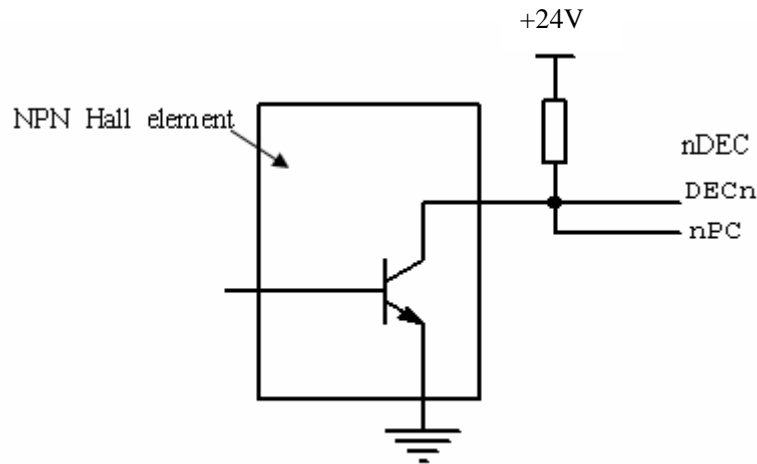

Fig. 2-8 Connection using NPN Hall elements
- a) The connection for NPN Hall elements taken as both deceleration signal and zero signal is shown in Fig. 2-8: